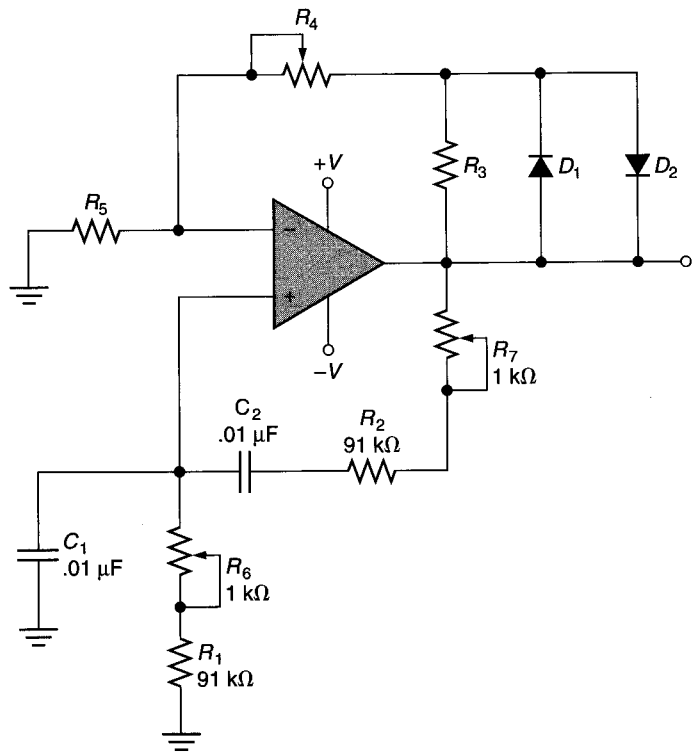

FIGURE 18.25
2. Calculate the operating frequency of the circuit shown in Figure 18.25.